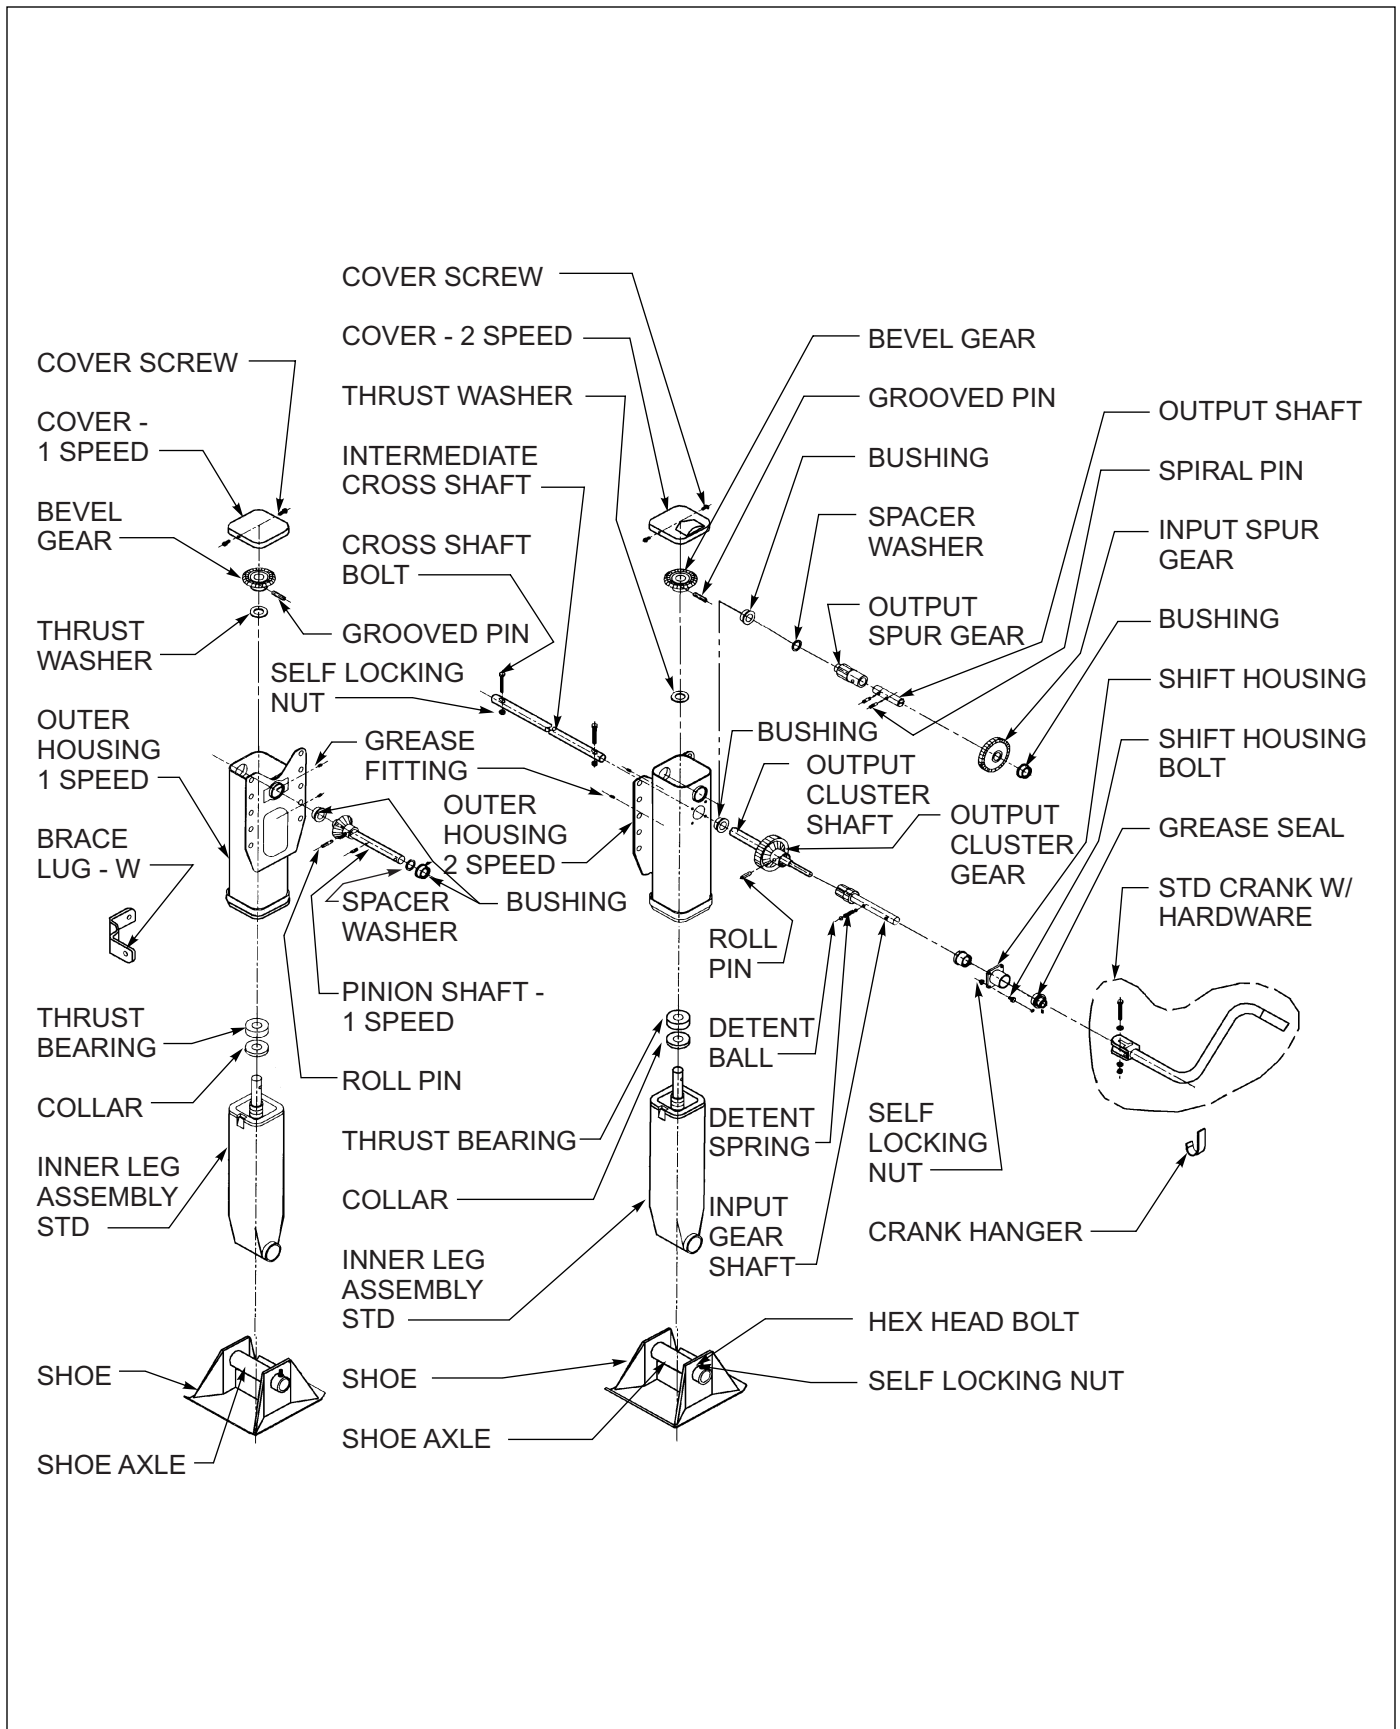

Figure 4-17: Crank Landing Gear Assembly
2. The elevating screw is lubricated by the lower grease fitting located on the upper housing (**See Figure 4-17.**) Prior to lubrication, extend the landing gear as far as possible. During lubrication, slowly retract the landing gear. The upper grease fitting lubricates the gearing, shafts, and bushings. It is recommended to use a high quality commercial grade lithium EP-2 grease.